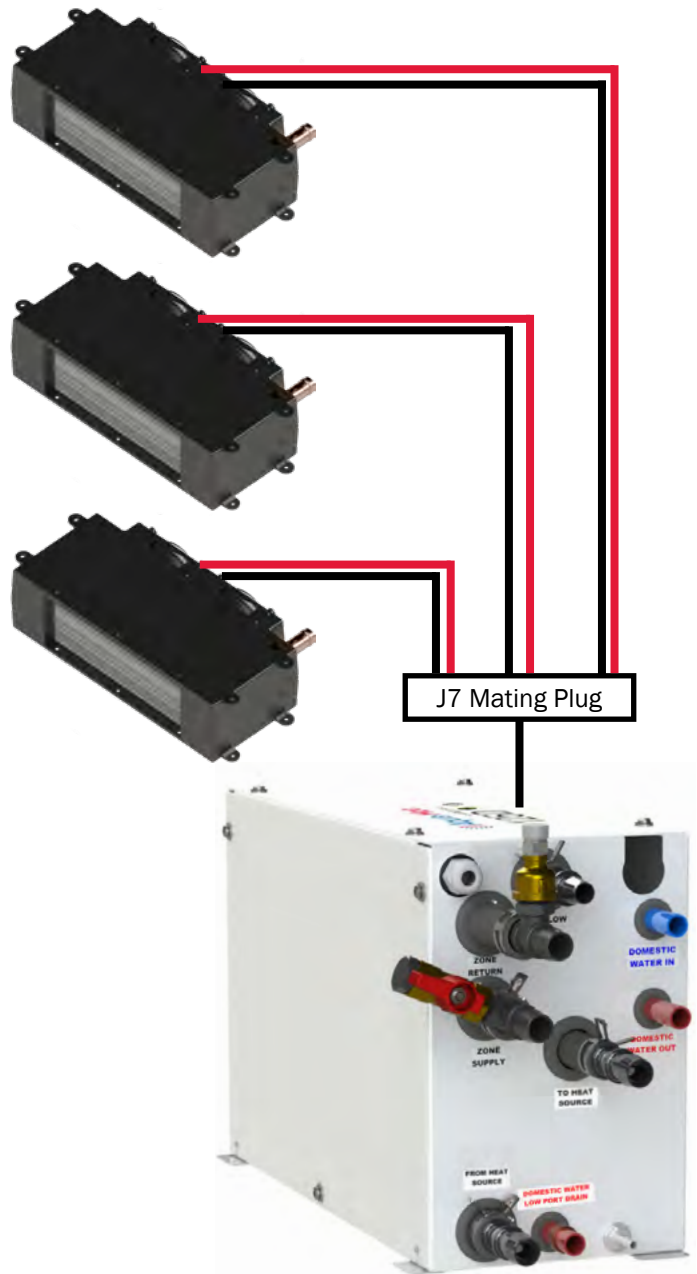

Figure 74
1. Wire each heat exchanger (in a thermostatic zone) in parallel to one another as shown in Figure 74.